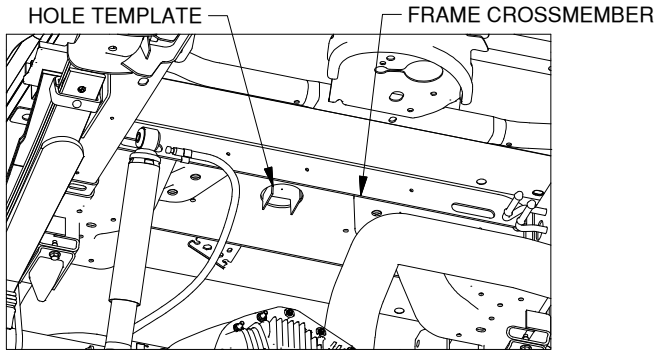

Figure A5: View under bed looking towards the cab.
8. **Mark the location of the 3-1/2" hole.** Insert the hole template into the center hole of the frame cross member as shown in figure A5. Push the template upward until it is flush against the bottom of the bed floor. Make a mark on the truck bed floor through the hole in the hole template using a pencil, marker, or other tool. Once the center point is marked, remove the template. Use a center punch to place an indentation in the truck bed at the center of the mark. Using a drill and a 1/4" bit, drill a pilot hole through the bed in this location.